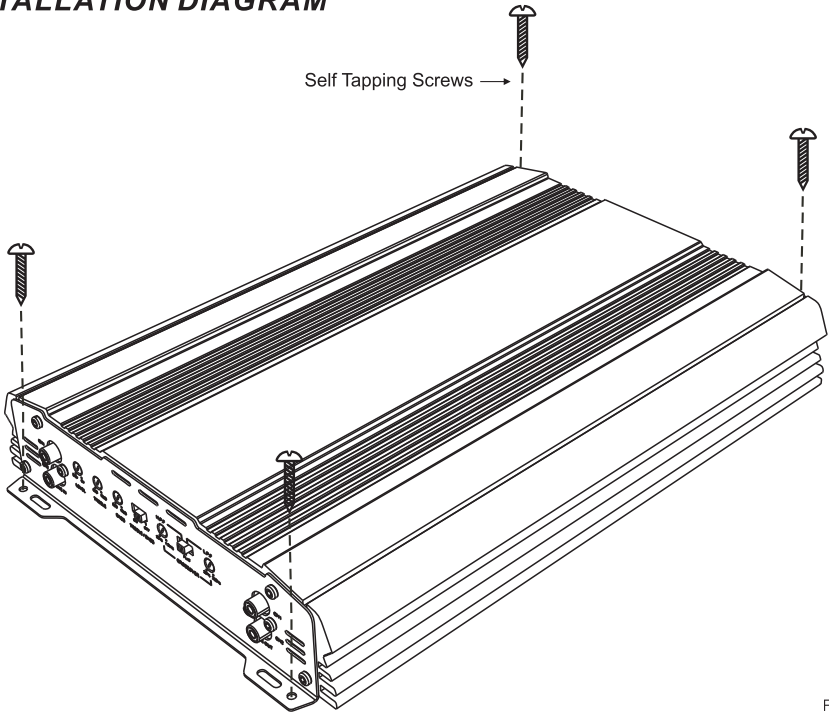

FIG. 1
1. After reading precaution, decide where you are going to install the unit. Also, see Fig. 1.